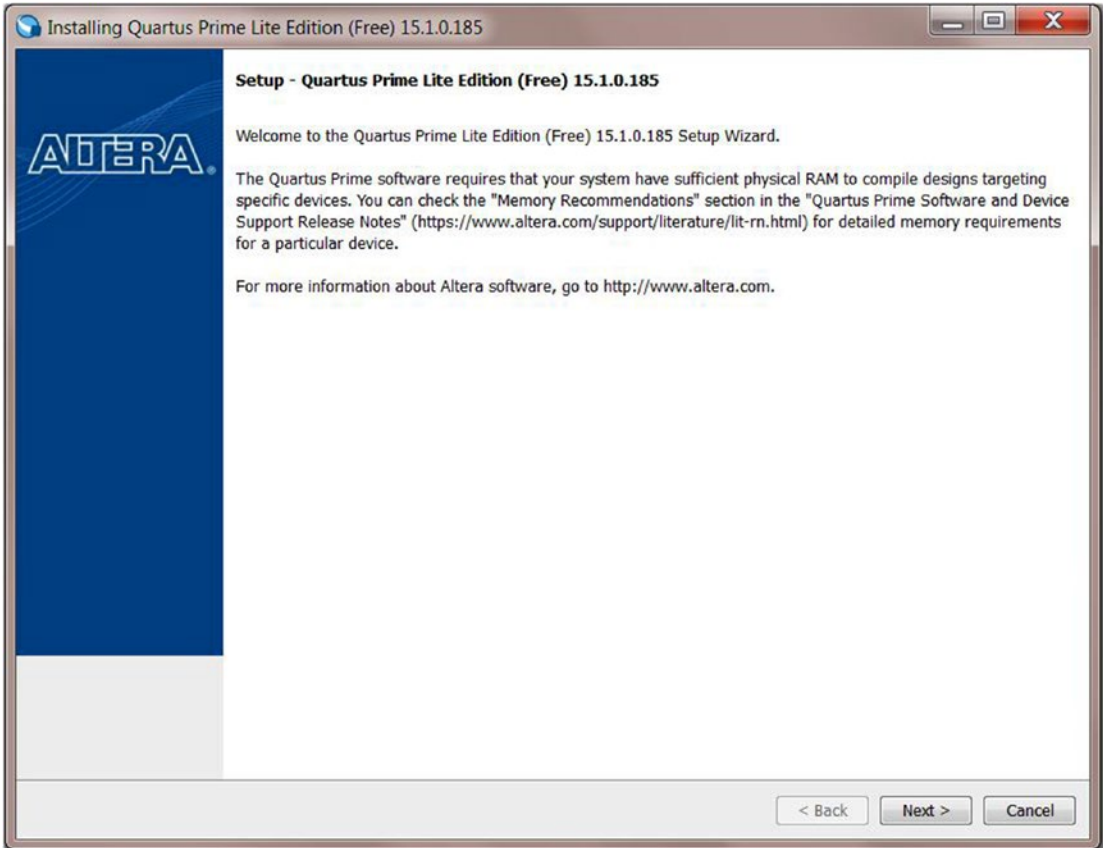

Figure 3-10. Installing Quartus Prime Lite Edition (Free)
1. For the individual files method: if you are using Windows, run the file `QuartusLiteSetup-<version>-windows.exe`. For the combined file method, you must unzip the `.tar` file to extract the installation files. Examples of unzipping tools: WinZip, 7-zip, or WinRAR. You need to unzip the files on the same directory and run `Setup.bat`. Both ways will bring you to the Setup Wizard as in Figure 3-10. Just click *Next*.